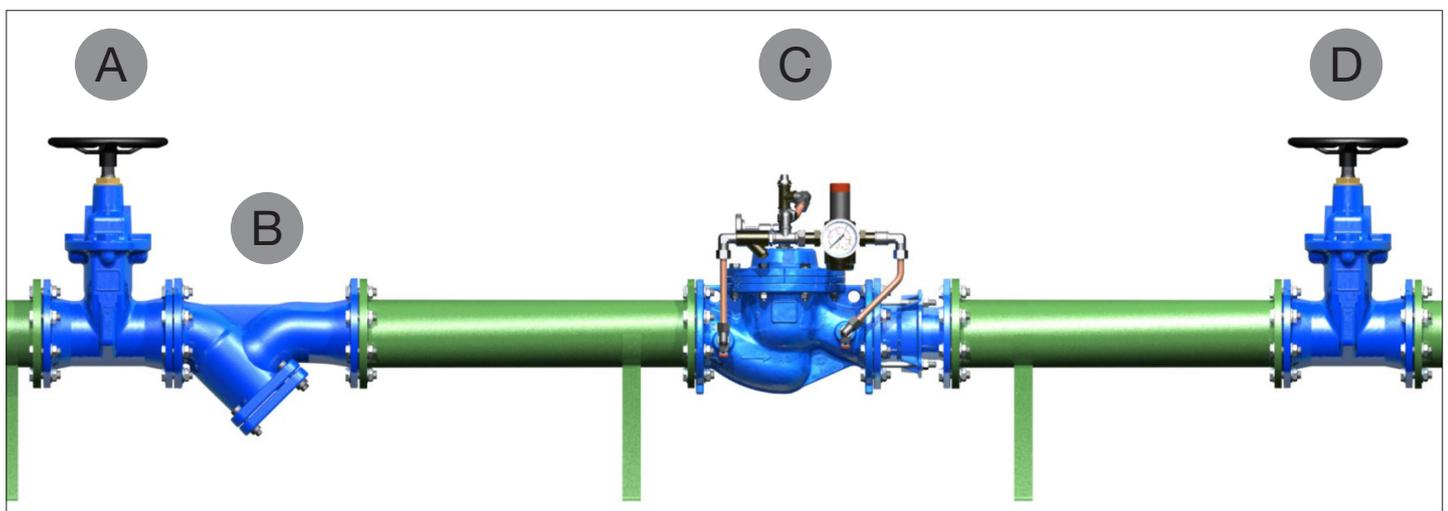

Figure 1: Installation recommendation of the VAG PICO® M100 Pilot Operated Control Valve
The VAG PICO® M100 Pilot Operated Control Valve is a control valve intended for installation in horizontal pipelines (for exceptions see Section 4.4). When the valve is installed between pipeline flanges, the flanges must be plane parallel and in true alignment. As shown in Figure 1, the VAG PICO® M100 Pilot Operated Control Valve (C) should preferably be installed between two shut-off valves (A + D) and a strainer (B) on the upstream pressure side. **We strongly recommend using a suitable support for the pipeline.** It must be ensured that the valve and especially its control circuit are easily accessible for operation and maintenance. For emergency operation a bypass line may be useful. The arrows on the valve body indicate the flow direction and need to be observed when the valve is installed. For proper use of the VAG PICO® M100 Pilot Operated Control Valve, the control circuit must be properly assembled at the main valve. The control circuit may only be modified by the manufacturer itself or in close consultation with the manufacturer. Improper modification may cause the valve to lose its control function and lead to consequential damage. For proper use and to prevent malfunction, a damping zone of 2 to 3 times DN should be provided upstream of the VAG PICO® M100 Pilot Operated Control Valve. On the downstream side, we recommend a damping zone of at least 5 times the nominal diameter (see also Section 4.3).